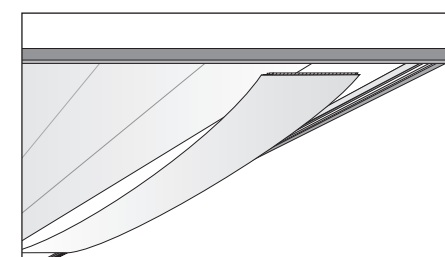

Fig.6
- The remaining end panel differs from the previous as this will also include the final section of coving to complete the exposed short end. (Fig.6) Apply adhesive to the panel as stated above and apply a combination of silicone and double-sided tape to coving (run a bead of silicone along the wall and position the double-sided tape to the edge of the trim that will stick to the ceiling). The double-sided tape will hold the Coving Profile in place while the silicone sets. Once all of the above is applied, again bend the panel into position and allow to set.